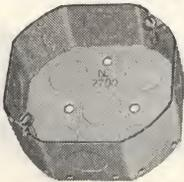

Fig. 8-3. The common octagonal box.
**Outlet Boxes:** Fig. 8-3 shows the most common outlet box. It is octagonal in shape and comes in two sizes: 4 and 3¼ in. The larger box is the more common, being much handier because it is more roomy, which permits more